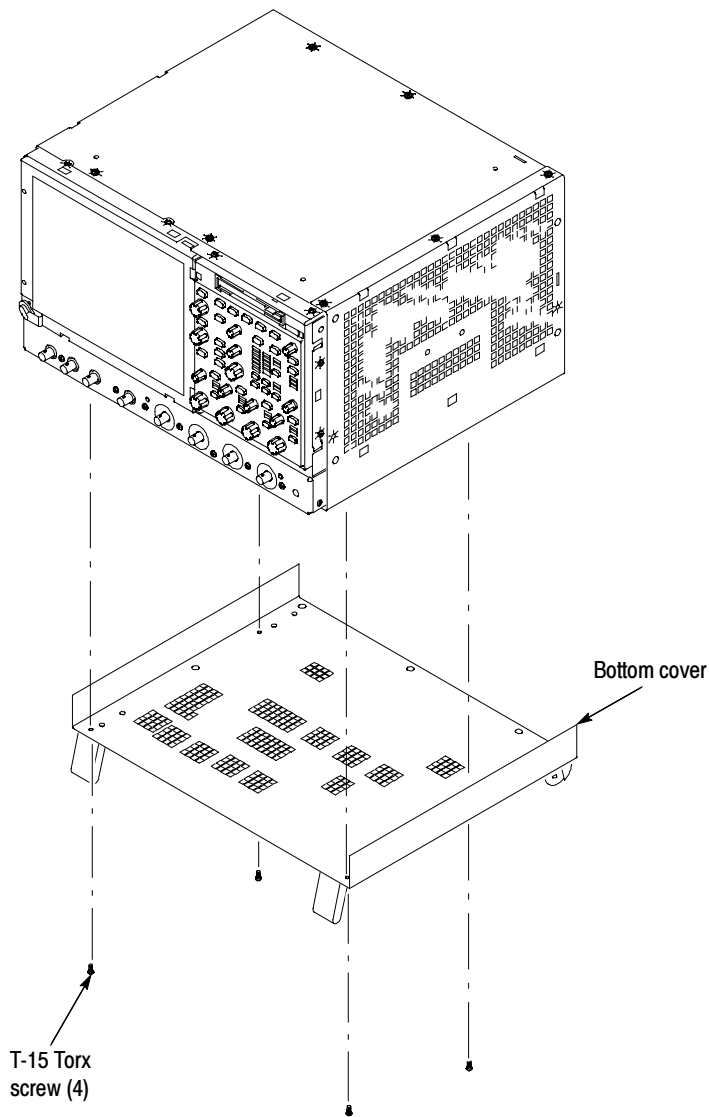

Figure 4: Bottom cover removal
1. *Remove the bottom cover:* See Figure 4 on page 10.